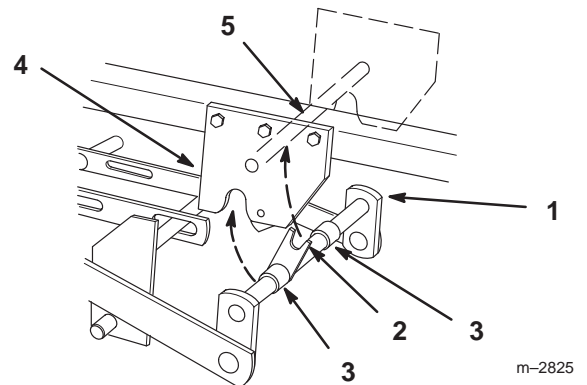

Figure 5
9. Rotate the front mounting shaft so the fork faces straight up and aligned so the spacers are between the mid-mount hitch plates (Fig. 5).
10. Lift the mower with the attachment lift lever or electric lift and guide the fork to capture the hitch rod (Fig. 5).